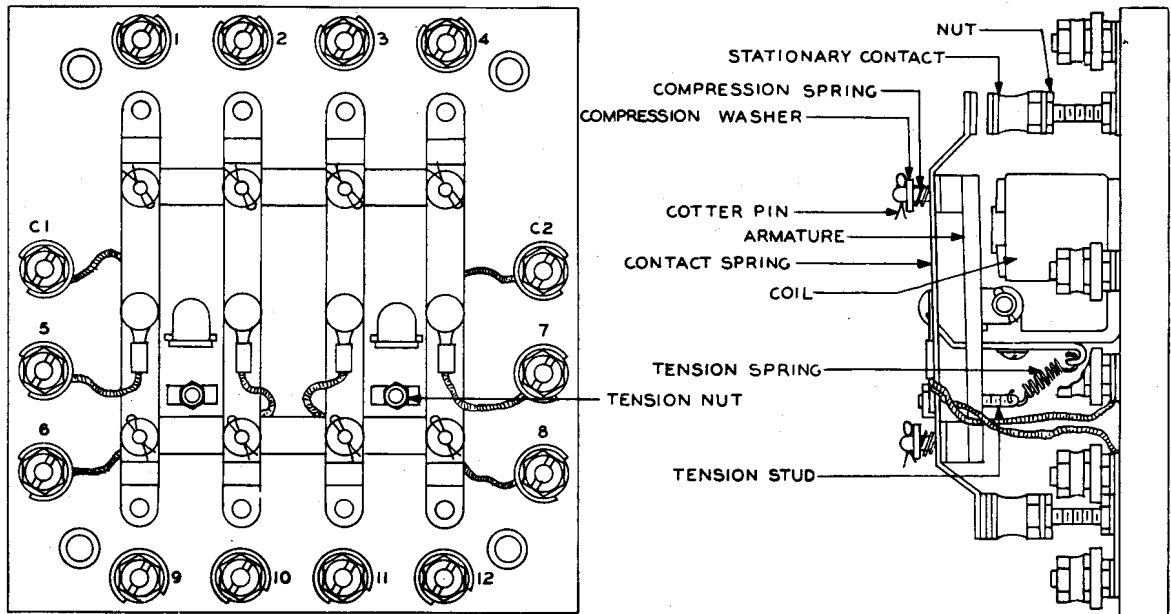

Fig. 1 - Control Relay (STRUTHERS-DUNN)
3.05 **Contact Spring - Moving Contacts:** (See Fig. 1 and 3.) To replace a moving contact, it is necessary to replace the complete contact spring which includes the moving contacts and the pigtail. To replace a contact spring, remove the cotter pins using the pliers, lift off the compression washers and the compression springs. Disconnect the pigtail from the terminal stud and remove the contact spring complete with the pigtail. Substitute the new contact spring and reassemble in the reverse order.
3.06 **Tension Spring:** (See Fig. 1 and 3) To replace the tension spring, remove the tension nut by raising the tension stud so the nut clears the stops and remove the nut. This will free the stud. Unhook the tension spring from the armature stop and the stud, using the pliers. Substitute the new tension spring and reassemble in the reverse order.
3.07 Stationary Contact: (See Fig. 1.) To replace a stationary contact, use the No. 417A wrench to turn the stationary contact in a counterclockwise direction and with another No. 417A wrench, hold the nut under the stationary contact. Remove the stationary contact. Install the new contact in the reverse order.
3.08 Coils: (See Fig. 1 and 3.) Mark and disconnect the coil leads from the terminal studs. With a screwdriver, dig out the sealing compound which covers the coil mounting screws in the rear of the base. Remove both coil mounting screws. This will free the armature, frame, armature stop, and the four contact springs as a unit. The coils will also be free. Remove the coil. Disconnect the coils from each other. Lift out the center core from the old coil. Insert the core in the new coil and reassemble in the reverse order.
3.09 Armature: (See Fig. 1 and 3.) To replace the armature, remove all contact springs as outlined in 3.05 except it may not be necessary to remove the pigtails from the terminal studs. Release the tension spring at the end nearest the armature as outlined in 3.06. Remove or release the armature pivot pin or screw. Substitute the new armature and reassemble in the reverse order.